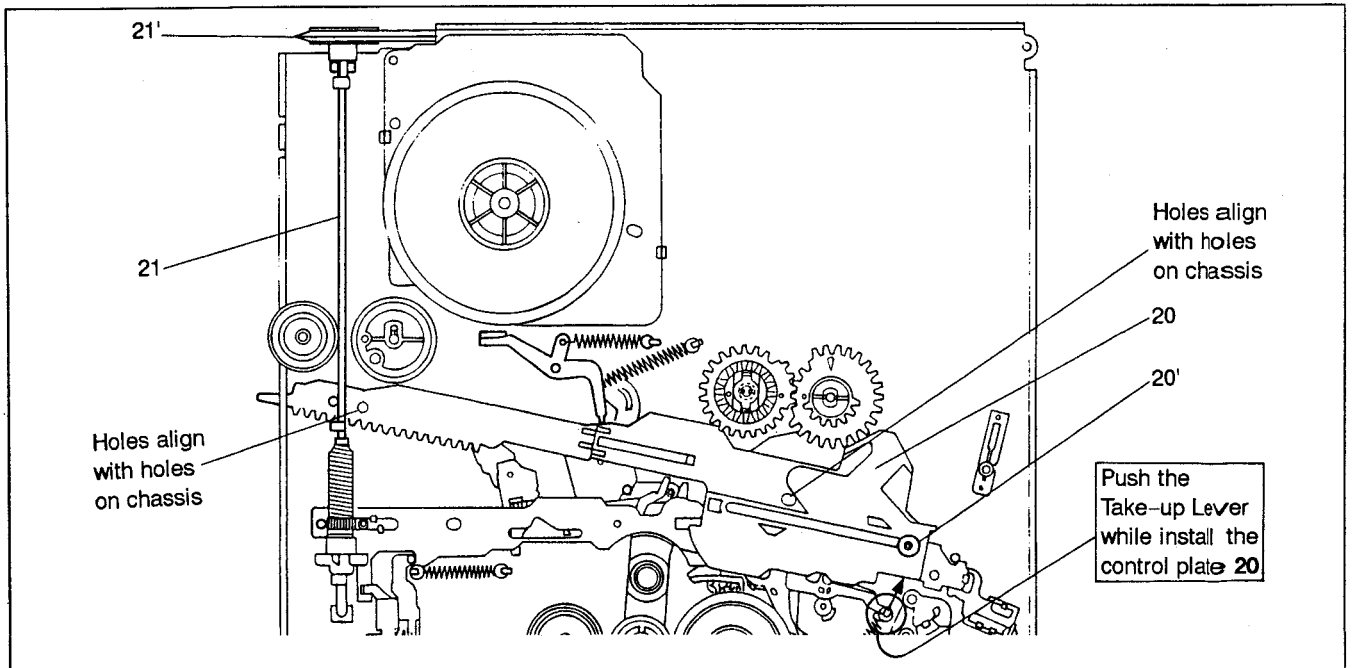

Fig. 2-4-12
- 20) Push the Take-up Lever with the two holes alined with the holes on the chassis (see Fig. 2-4-12) . In this condition install the Control Plate and the slit washer (20') .